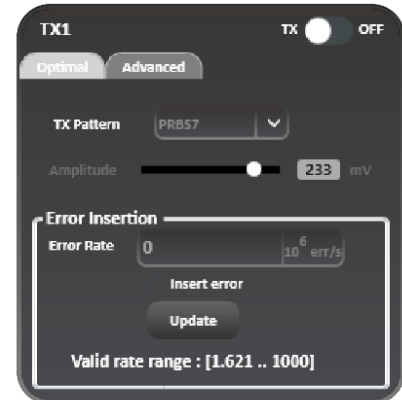

Figure 17: TX OFF - channel control locked
- **Enable/Disable TX control for each channel (TX ON/OFF).** Once turned off, the control of TX settings is disabled: channel control is locked from any selections, and TX output is turned off (Figure 17).